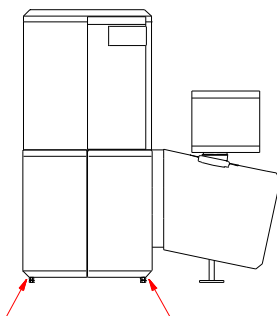

Fig. 8
13.) Screw the galvanised mounting brackets supplied to the boiler base (Fig. 8) using the M8x16 hexagon-head bolts and slide the base insert and insulation (N, Fig. 9) under the boiler base.